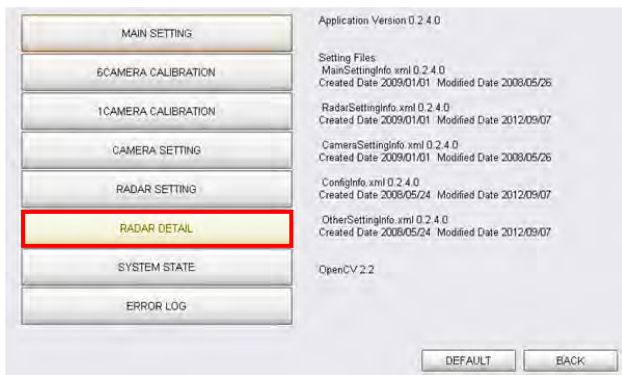

FIGURE 30-40. RADAR DETAIL SCREEN
4. Select the RADAR DETAIL button. See Figure 30-40.